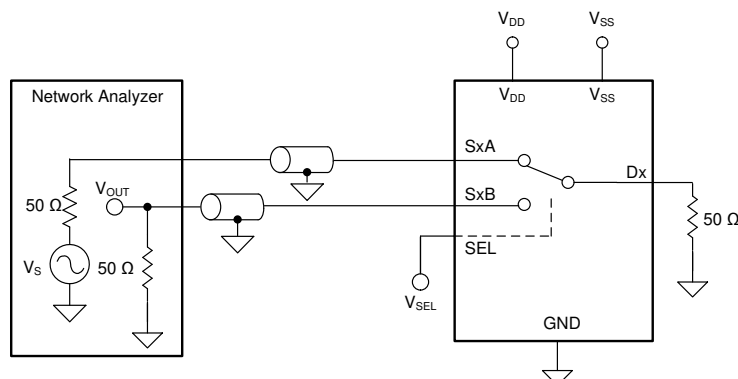

Figure 7-8. Intra-Channel Crosstalk Measurement Setup
1. Intra-channel crosstalk: the voltage at the source pin (Sx) of an off-switch input, when a 1-VRMS signal is applied at the source pin of an on-switch input in the same channel, as shown in Figure 7-8.